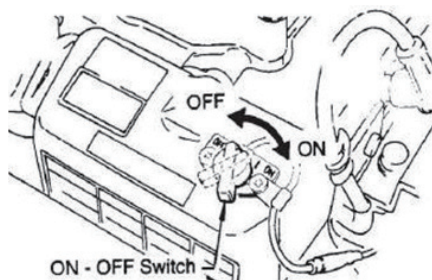
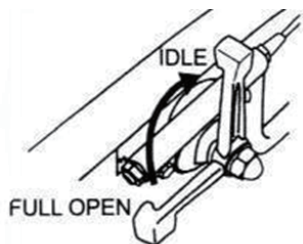

Fig 6
Fig 11
2. Set the engine ON/OFF switch [Fig 6] to the **ON** position [start].
1. Move throttle lever quickly from the FULL OPEN to IDLE position (Fig 11) and run the engine for three minutes at low speed. After the engine cools, turn the engine start/stop switch to the "STOP" position (Figure 6) until engine comes to a complete stop.